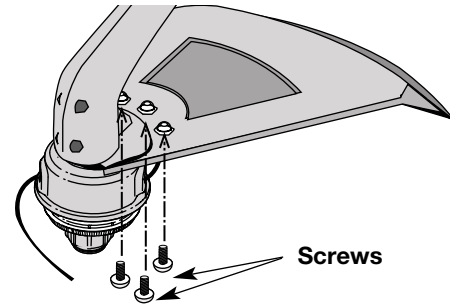

Fig. 6
3. Install a screw into the hole from the bottom of the cutting attachment shield and screw it into the nut installed in step #2 (Fig 6). Do not tighten.